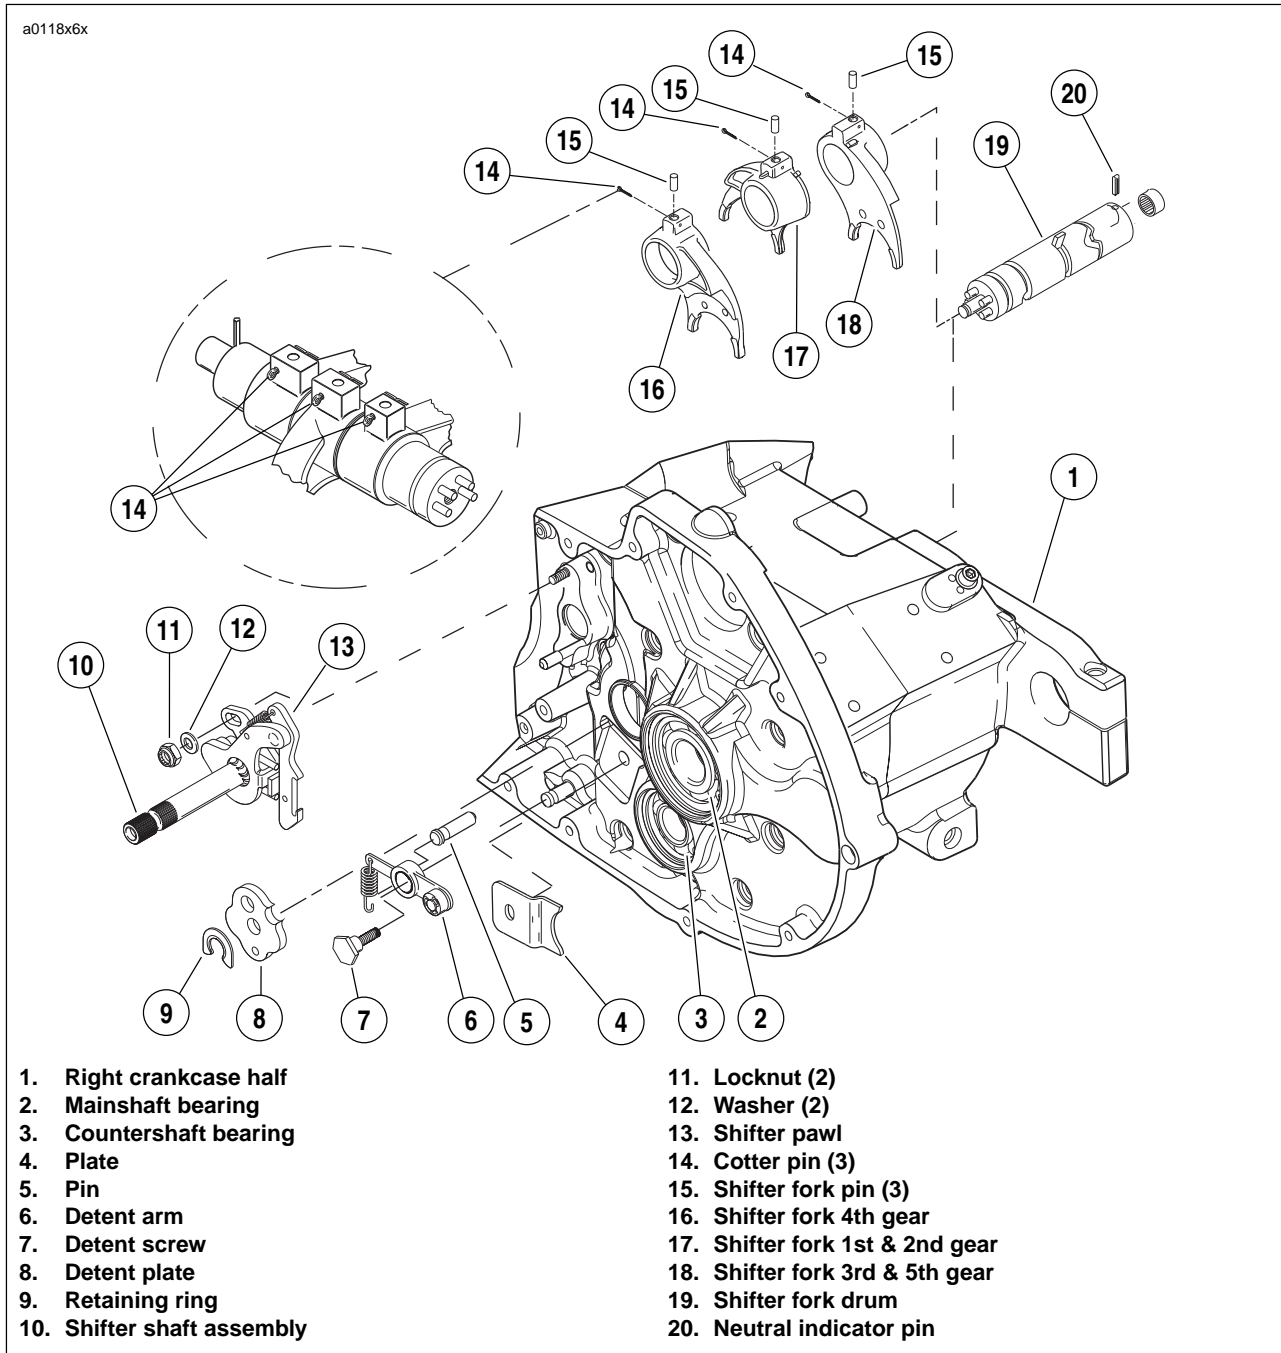

Figure 6-36. Shifter Mechanism
5. See Figure 6-36. Position the shifter drum shaft so that the neutral indicator switch activator pin is upward. The shaft is then in the neutral position.
To prevent possible cotter pin damage, the pins must be inserted through the shifter forks as shown in the inset of Figure 6-36.
See *Figure 6-36*. Insert cotter pins as shown.